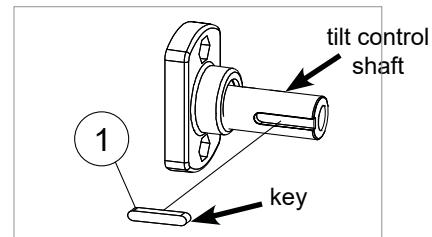
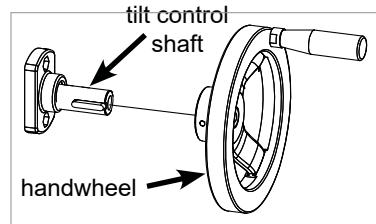
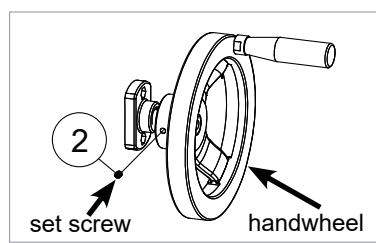
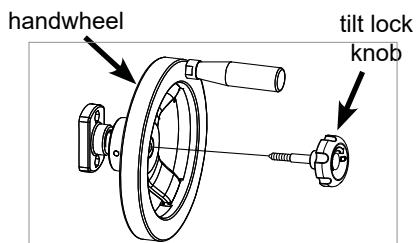

Fig. 14
Fig. 15
Fig. 16
Fig. 17
- Open the other handwheel package and screw the handle into the handwheel (see Fig. 13). Tighten the handle with a 14 mm wrench. The hardware required to install the tilt handwheel is located in the area with the blue background on the Table Saw Hardware Pack. Remove a key from the Table Saw Hardware Pack and insert it into the slot at the end of the tilt control shaft (see Fig. 14). Slide the handwheel onto the end of the tilt control shaft (see Fig. 15) until the face of the handwheel is flush with the end of the tilt control shaft. Remove a set screw from the Table Saw Hardware Pack and insert it into the small hole located on the side of the handwheel (see Fig. 16). Use a 3 mm hex key to fully tighten the set screw. Locate the lock knob with the shorter shaft. Screw the lock knob into the end of the tilt control shaft (see Fig. 17), but don't tighten it completely. The lock knob is used to prevent the handwheel from turning after the blade has been set to a new tilt angle.